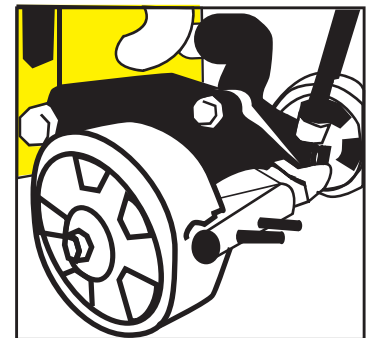

FIGURE 3
5.1.2 In case of an emergency, press the Emergency Stop button immediately to halt the machine. **FIGURE 3.**
5.3.2 Turn the motor switch to the OFF position to cut off the power. **FIGURE 3.**
When braking is necessary, engage the braking bar on the wheel to safely stop the machine. **FIGURE 3.**